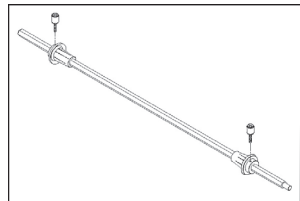

Figure 8
2. Take both lock core adapters off from the shaft. (Fig. 8)